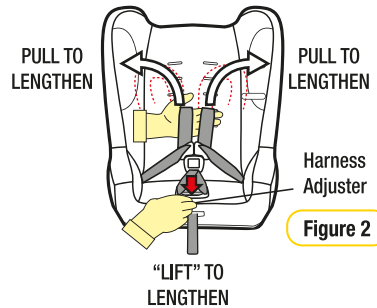

Figure 2
Step 2: To lengthen the harness "LIFT" the harness adjuster (refer Figure 2) whilst grasping both shoulder harness straps and pulling. Ensure shoulder straps are pulled equally on each side.